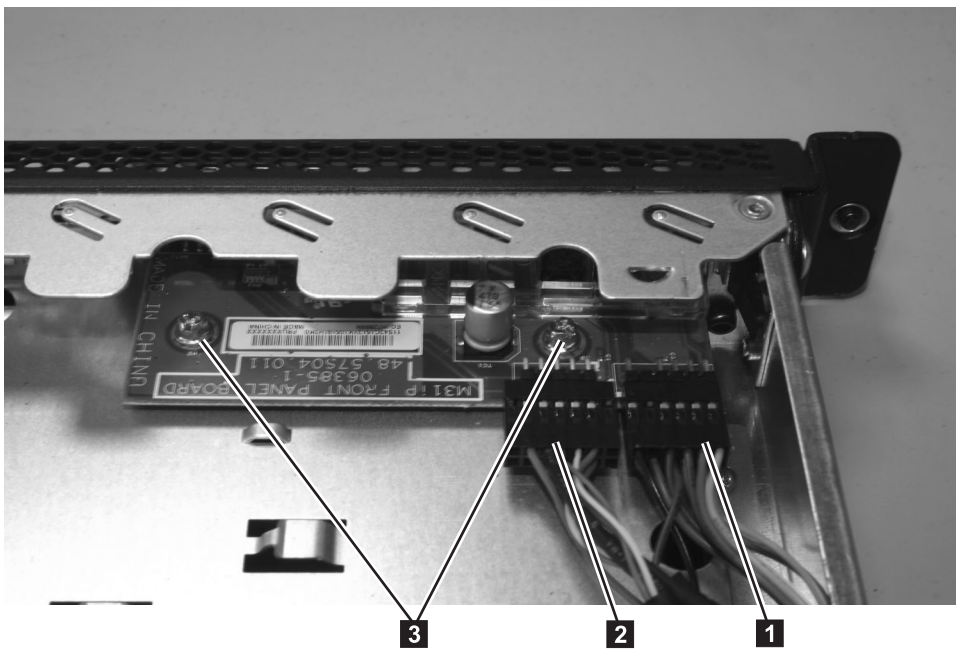

Figure 223. SAN Volume Controller 2145-8A4 operator-information panel
1. Connect the light panel cable **1** and the front USB cable **2**, shown in Figure 223, to the operator-information panel board.